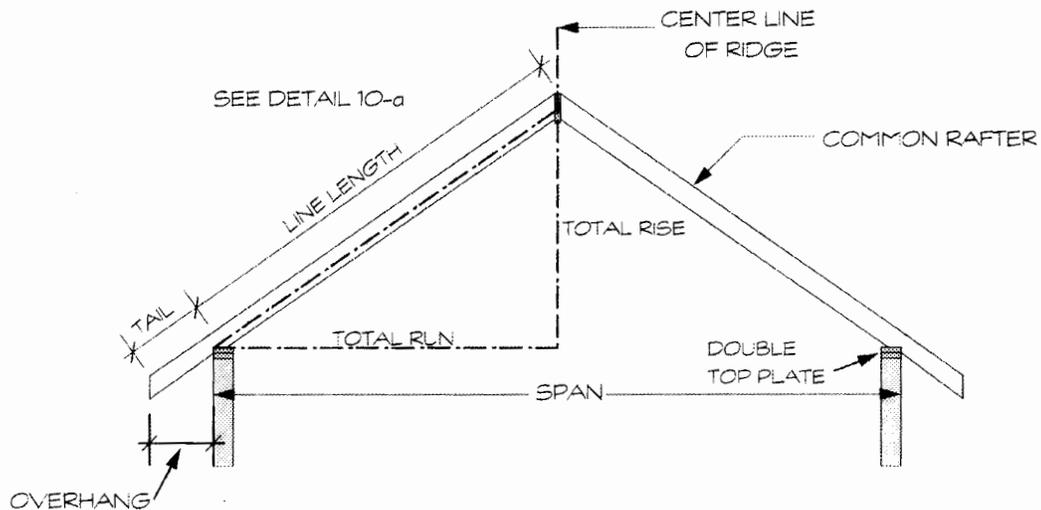

FIGURE 10-15
Until now we have been looking at simple wire frame models of framed roofs but in reality rafters have thickness and height so let's take a closer look. *Figure 10-15* introduces us to some new terminology.
In the previous examples you solved the theoretical line length and theoretical total rise. It is important to note where the theoretical triangle is in relation to the actual rafter. Notice in *Figure 10-15* the theoretical line length or layout line is not measured at the top or bottom edge of the rafter. **Detail 10-a** on page 103 clearly shows the point to which total rise is measured at the ridge and the top plate of the wall.
If you look carefully at *Figure 10-15* you can see the overhang extends the rafter beyond the wall plate. Note also that the rafter must be shortened at the ridge because the ridge board has thickness.
- **The Rafter Tail or Projection** – The line length of the rafter does not include the tail. The length of the tail is a separate calculation, based on the roof overhang. *See Figure 10-15*
- **Overhang** – The overhang is the horizontal measurement from the wall to the end of the rafter tail. If the plan shows the overhang at 24", that means 24" horizontally from the vertical plane of the wall to the vertical plane of the rafter tail. *See Figure 10-15*